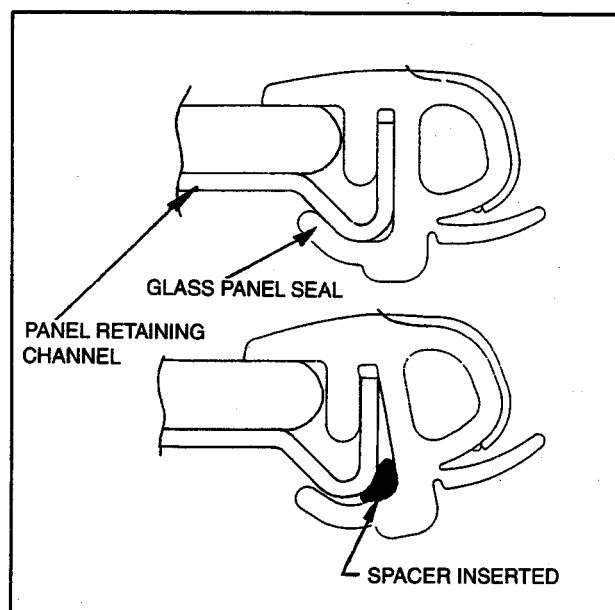

Fig. 16 - Inserting Spacer in Glass Seal.
4. In the areas marked insert a spacer between panel retaining channel and rubber seal. (Fig. 16).